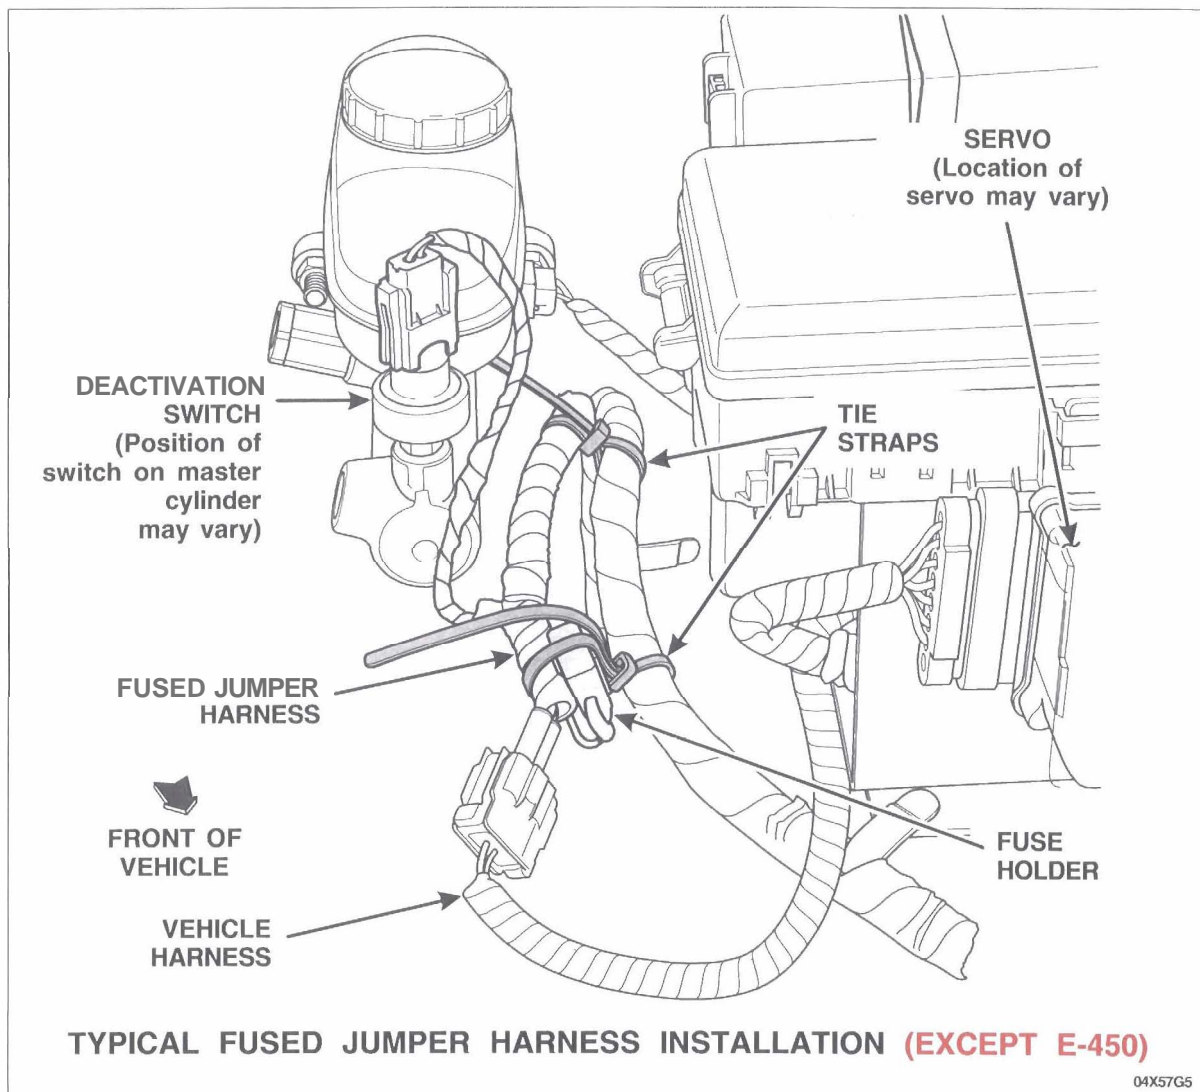

FIGURE 4
4. Secure the jumper to the existing harness with tie straps, making sure the fuse holder is positioned vertically with the cap facing upward. Wrap the tie straps underneath, then over the top of the existing harness and verify proper fuse holder orientation. See Figures 4 and 5.